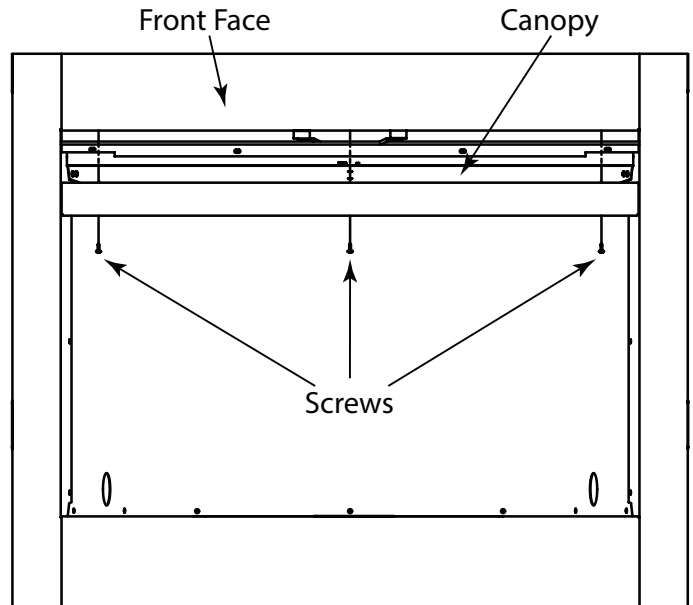

Figure 7.2 Canopy Installation
1. Locate three (3) holes (one at each end and one in center) of canopy and attach to face of unit with supplied screws. Figure 7.2.